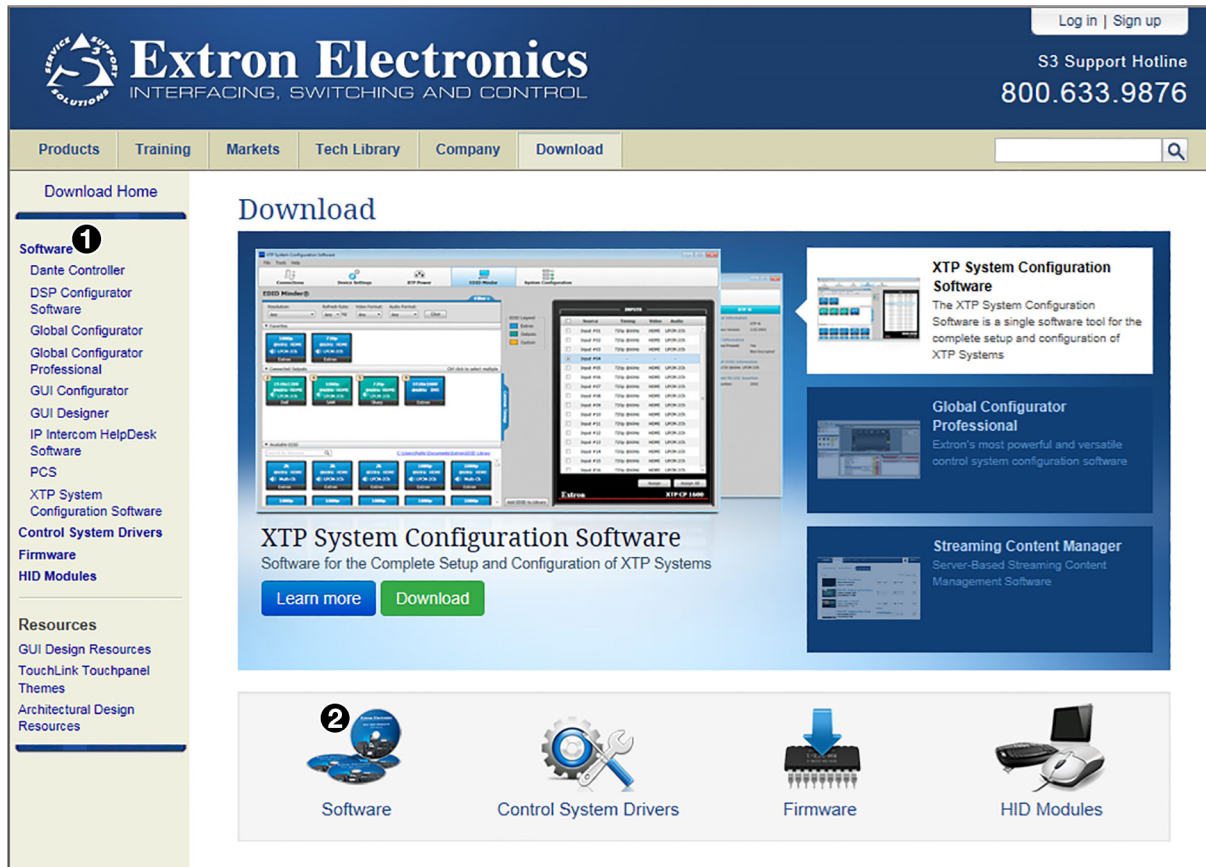

Figure 14. Selecting Software on the Download Screen
2. On the Download screen, click the **Software** link (see figure 14, ①) in the left panel or the **Software** icon (②) near the center of the screen.